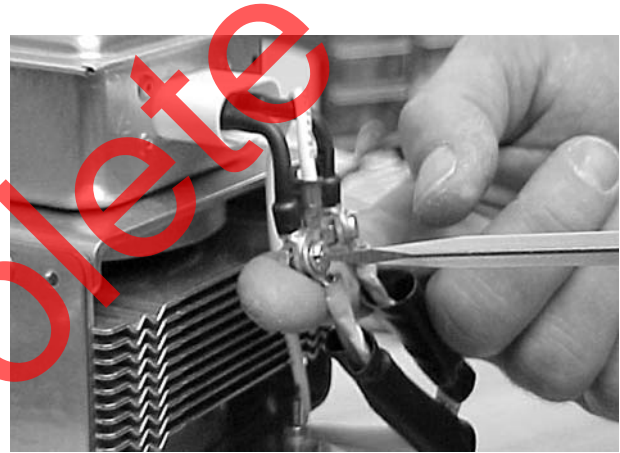

Figure 4-18 Ring Terminals
3. See Figure 4-18. Slide the sleeving down to expose the two ring terminals. Remove the two screws.